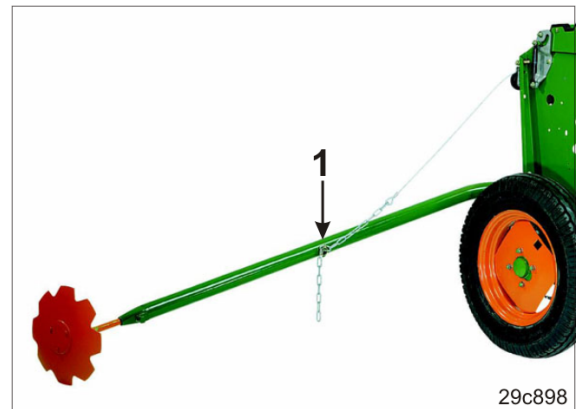

Fig. 167
5. Secure the chain with a linch pin (Fig. 167/1).